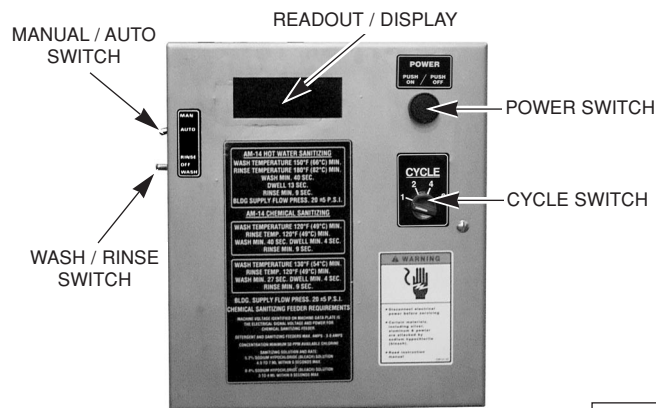

Fig. 12
## FILLING THE WASH TANK — Models AM14T / AM14TC (Fig. 12)
In Automatic mode, the **MANUAL / AUTO** switch (Fig. 12) is on **AUTOMATIC** and the **WASH / RINSE** switch is **OFF**. The wash and rinse cycles begin automatically. The wash cycle begins when the machine doors are closed. The rinse cycle begins when the wash cycle is completed.
In Manual mode, the **MANUAL / AUTO** switch (Fig. 12) is on **MANUAL**. The wash cycle begins when the **WASH / RINSE** switch is on **WASH**. After the desired wash time (minimum 40 seconds recommended), hold the **WASH / RINSE** switch in the **RINSE** position for the desired rinse time (minimum 18 seconds recommended).
2. MANUAL / AUTO Switch on AM14T or AM14TC may be on MANUAL; turn switch to AUTO (Fig. 12).